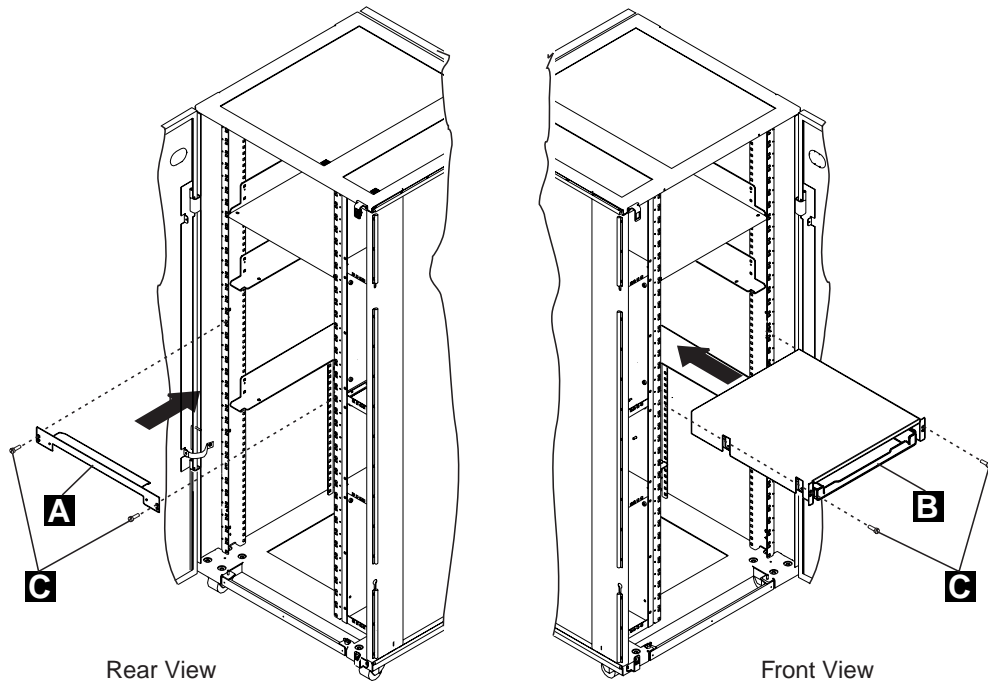

Figure 1-7. Installing the Service Drawer
8. ____ Refer to Figure 1-7, on the rear side of the controller expansion, install bracket **A** using two screws **C** (PN 1621230).